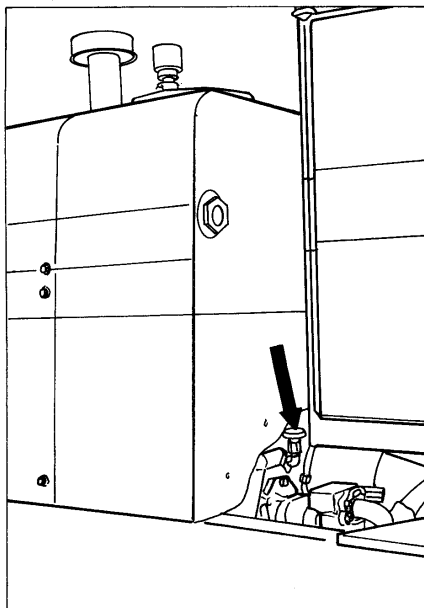

Fig. 5.46. Transmission Breather
1. Remove the breather located on the RH side of a machine (Refer to Fig. 5.46).